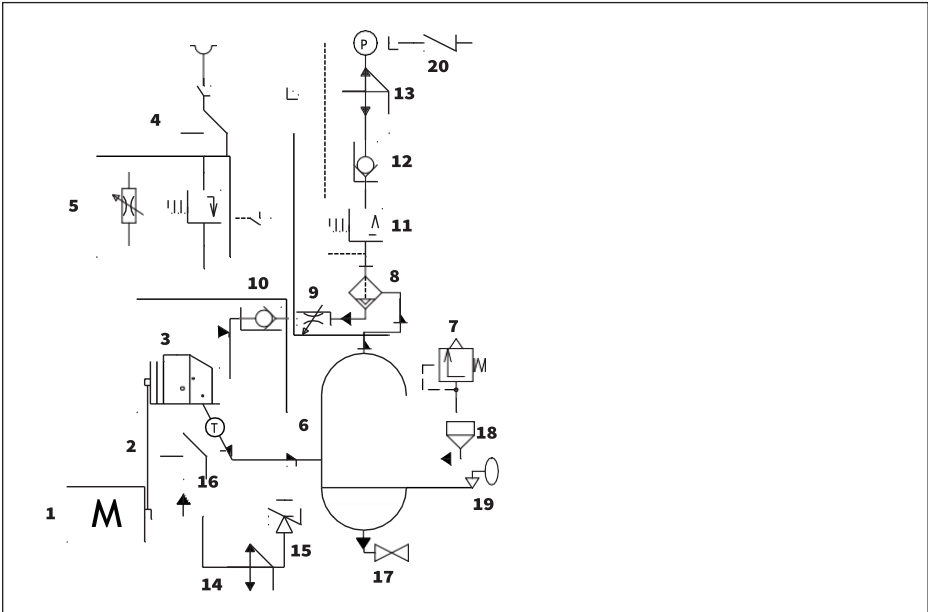
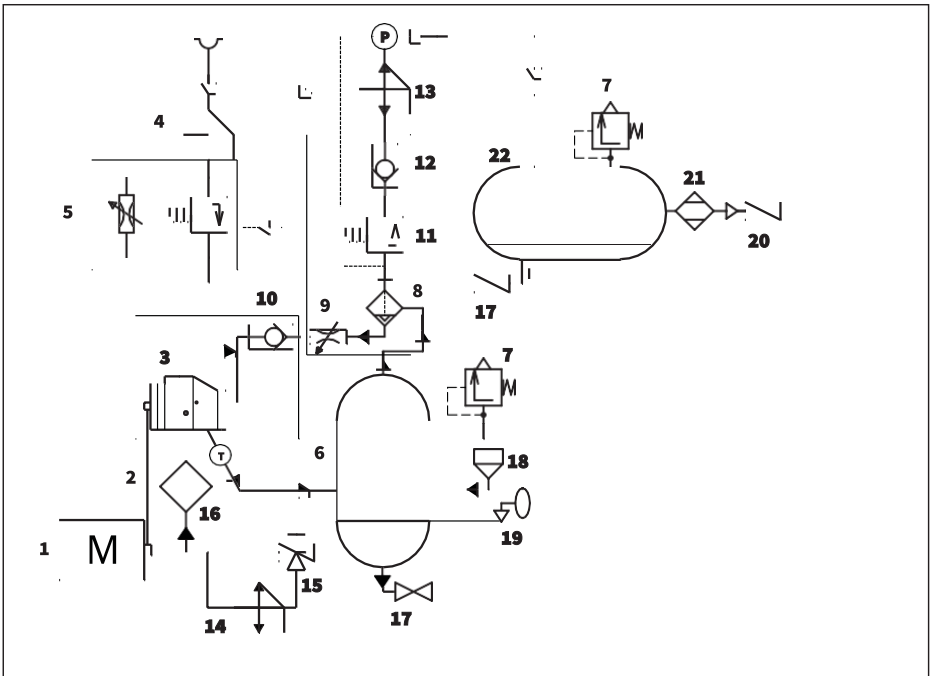

Fig. 2.3.1 Function diagram A07..-A22..
Fig. 2.3.2 Function diagram AR07..-AR22.., ARD07..-ARD22..
2.4 Functional description (see Fig. 2.3.1 and Fig. 2.3.2)